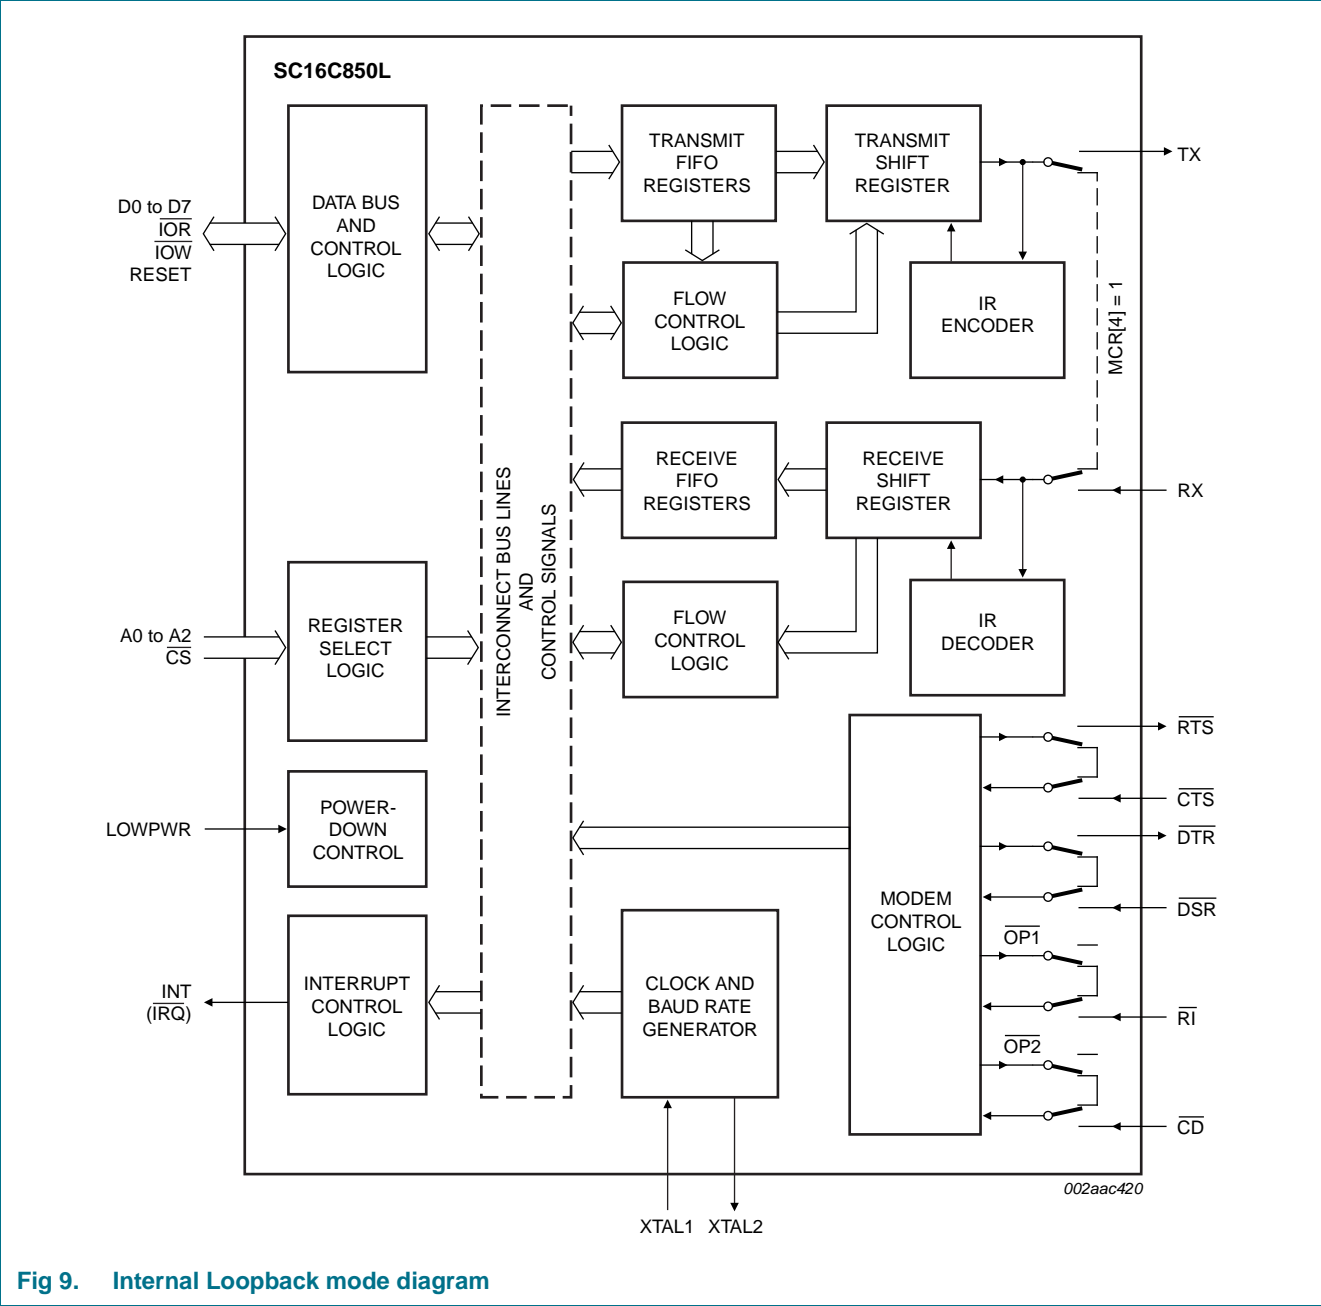

Fig 9. Internal Loopback mode diagram
The internal loopback capability allows on-board diagnostics. In the Loopback mode, the normal modem interface pins are disconnected and reconfigured for loopback internally (see Figure 9). $MCR[3:0]$ register bits are used for controlling loopback diagnostic testing. In the Loopback mode, the transmitter output (TX) and the receiver input (RX) are disconnected from their associated interface pins, and instead are connected together internally. The \overline{CTS} , \overline{DSR} , \overline{CD} , and \overline{RI} are disconnected from their normal modem control input pins, and instead are connected internally to \overline{RTS} , \overline{DTR} , $MCR[3]$ ($\overline{OP2}$) and $MCR[2]$ ($\overline{OP1}$). Loopback test data is entered into the transmit holding register via the user data bus interface, $D[7:0]$. The transmit UART serializes the data and passes the serial data to the receive UART via the internal loopback connection. The receive UART converts the serial data back into parallel data that is then made available at the user data interface $D[7:0]$. The user optionally compares the received data to the initial transmitted data for verifying error-free operation of the UART TX/RX circuits.